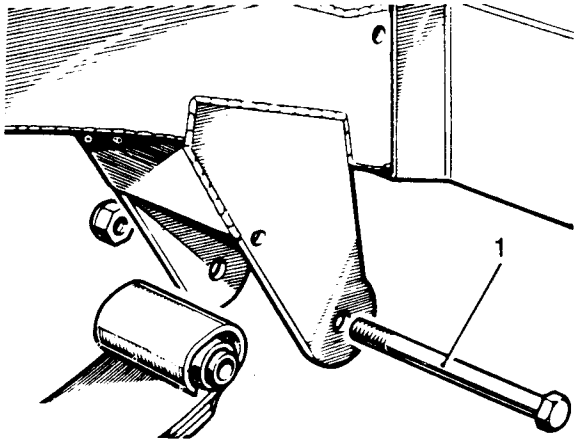

Fig J1.22
(10) Refer to Fig J1.22. Support the front axle with a jack, slacken all six shackle pins (1) at the front road springs, then remove the two front pins.
(11) Lower the jack and withdraw the axle.